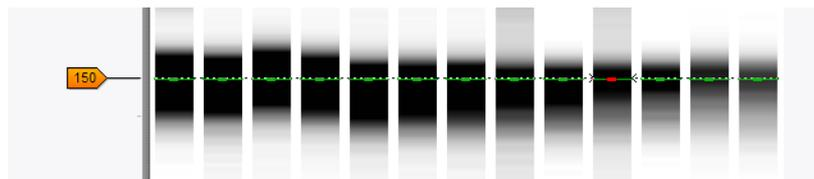

Figure 20: Correction of lower markers.
48. In lane 8, **Ctrl+Click** on the correct position of the low marker to link that peak to the reference position (see Figure 20).
49. In lane 10, **Ctrl+Click** on the correct position of the low marker to link that peak to the reference position (see Figure 20).